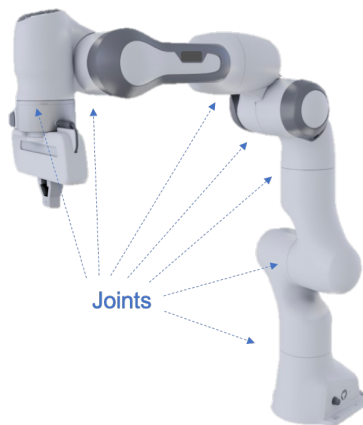

Figure 3: Robotic manipulator with revolute joints
- (g) The manipulator in Figure 3.